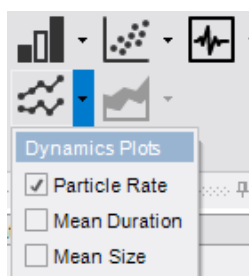

Figure 18. Drop-down menu containing Particle Rate Plot.
3. For multi-pressure recordings, ensure the checkbox in the 'View' column is checked for each pressure and open the Particle Rate Plot (Figure 18).